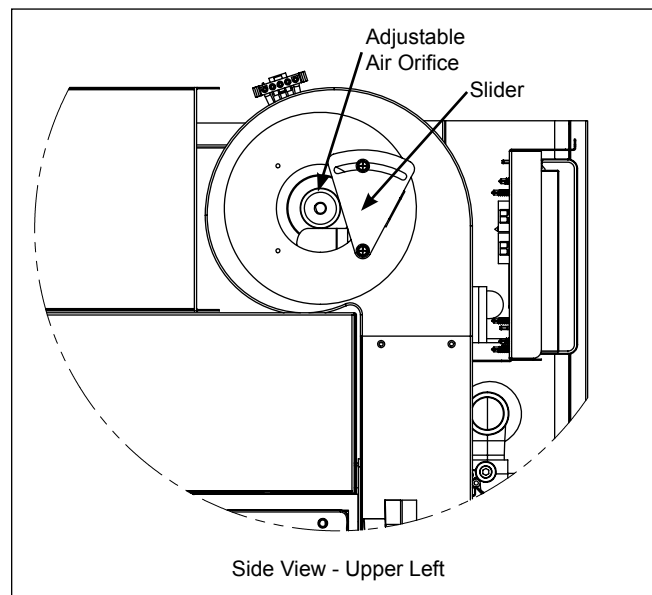
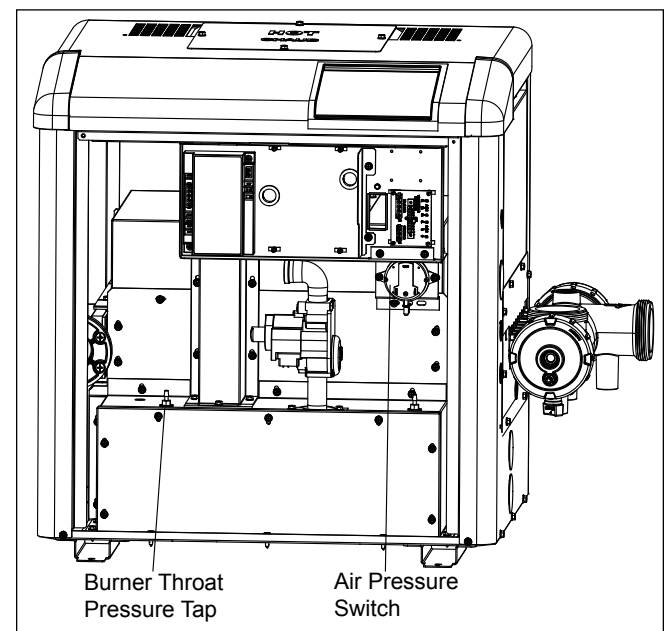

Figure 37. Adjustable Air Orifice Location
Figure 38. Air Pressure Switch and Burner Throat Pressure Tap Location
The burner throat pressure should be adjusted using the air orifice on the intake of the fan. This air orifice has a slider attached to it, see Figure 37. This slider is used to increase or decrease air pressure. The air pressure will drop as more of the slider covers the air orifice. The air pressure will increase as more of the air orifice is exposed. The pressure should be adjusted to 1.0" W.C. To measure the air pressure locate the burner throat pressure tap, see Figure 38. Remove the plug covering the tap and measure the pressure.
Set the voltmeter to measure AC voltage. Attach the black lead of the voltmeter to the terminal on the secondary side of the transformer with a yellow wire attached to it (common). This is test point 1 on Figure 37. Touch the free lead of the voltmeter to the terminal on the secondary side of the transformer with a red wire attached to it (24V tap), test point 2. The voltmeter should read between 20-28 Volts AC.
Start by checking the voltage at the two (2) legs of this circuit on the controller, see test points 4 and 5 in Figure 37. Check the voltage at test point 4, where the violet wire from the pressure switch enters the two-pin connector on the controller.